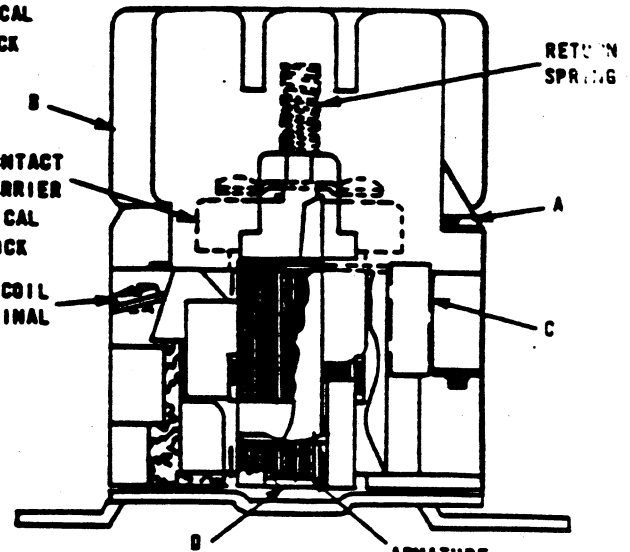

FIGURE 2.
1. Remove contact block assembly (See B in Figure 2) by removing screws at A.
4. Place magnet retainers (See C in Figure 2) in position with the long extension on retainers engaging magnet.